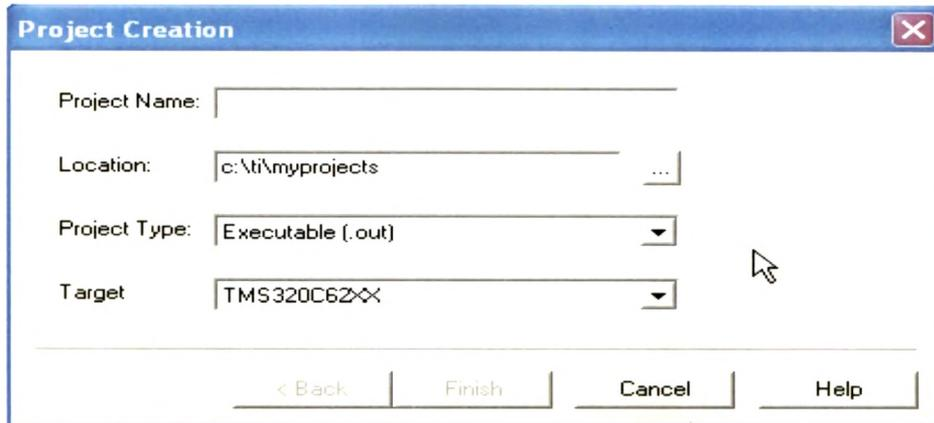

Fig 8.18 PROJECT CREATION WINDOW
- From the Project menu, choose New. The Project Creation wizard window (Fig 8.18) displays.